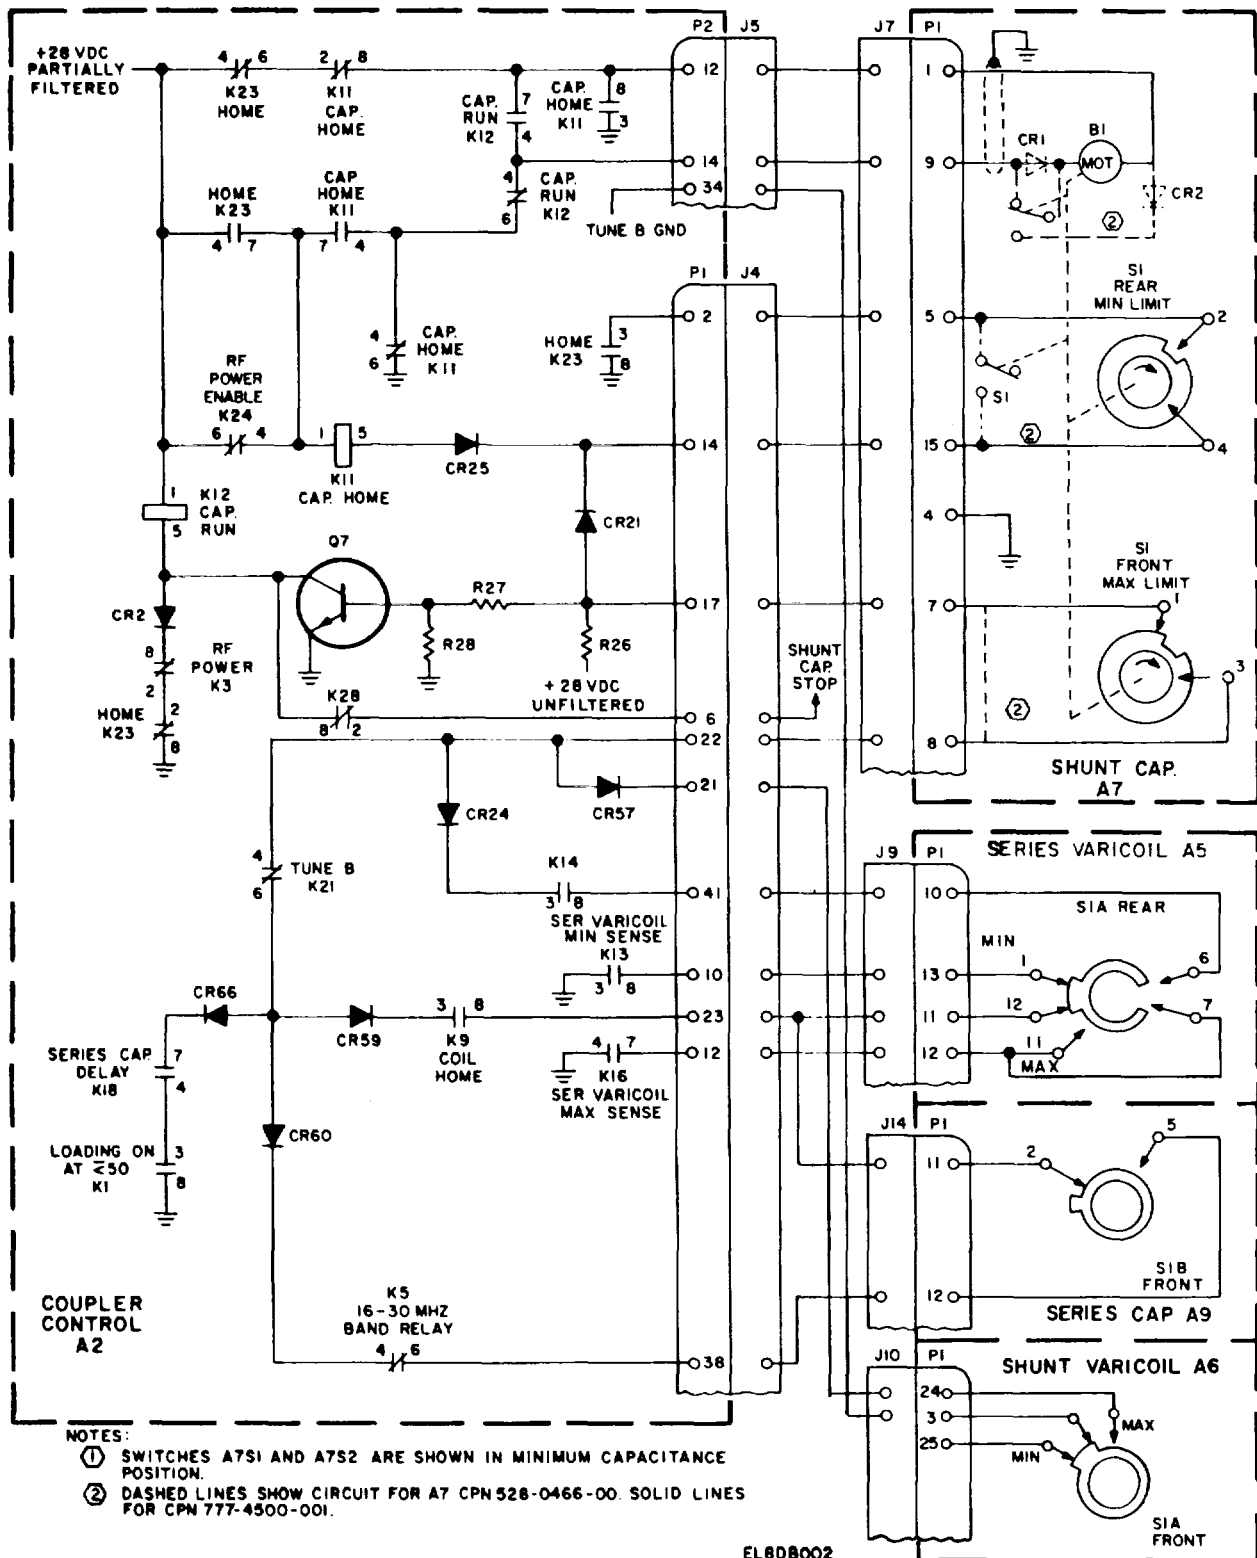

Figure 2-5. Shunt Capacitor A7 Motor Circuit, Simplified Schematic Diagram.
i. If shunt capacitor A7 (fig. 2-5) is not in the *home* position, the ground supplied by A2K23-3 and -8 through A2P1-2, A7P1-5, A7S1, A7PI-15, and A2P1-14 grounds the base bias circuit of A2Q7. When A2Q7 is disabled, A2K12 is restored removing the short across shunt capacitor drive motor A7B1. The +28 volt dc *homing* voltage is supplied to A7B1 through A2K23-4 and -7, A2K11-7 and -4, normally-closed A2K12-6 and -4, A2P2-14, A7P1-9, and A7CRi. Ground is supplied to A7B1 through A2K11-8 and -3, A2P2-12, and A7PI-1. When shunt capacitor A7 reaches the *home* position, A7S1 opens, and removes the ground from A2Q7 base bias circuit. A2Q7 conducts operating A2K12. A2K12-7 and -4 complete a short circuit across A7B1 providing dynamic braking.